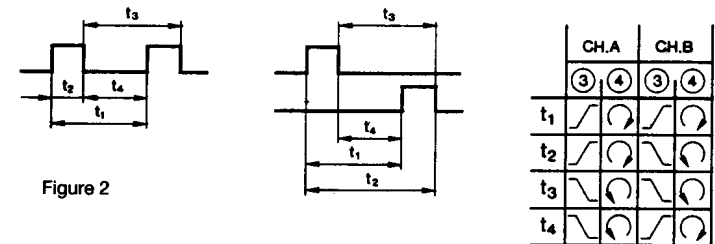

Figure 2
Combination of trigger-level controls (4) and slope keys (3) (See Figure 2) affords further measuring facilities.